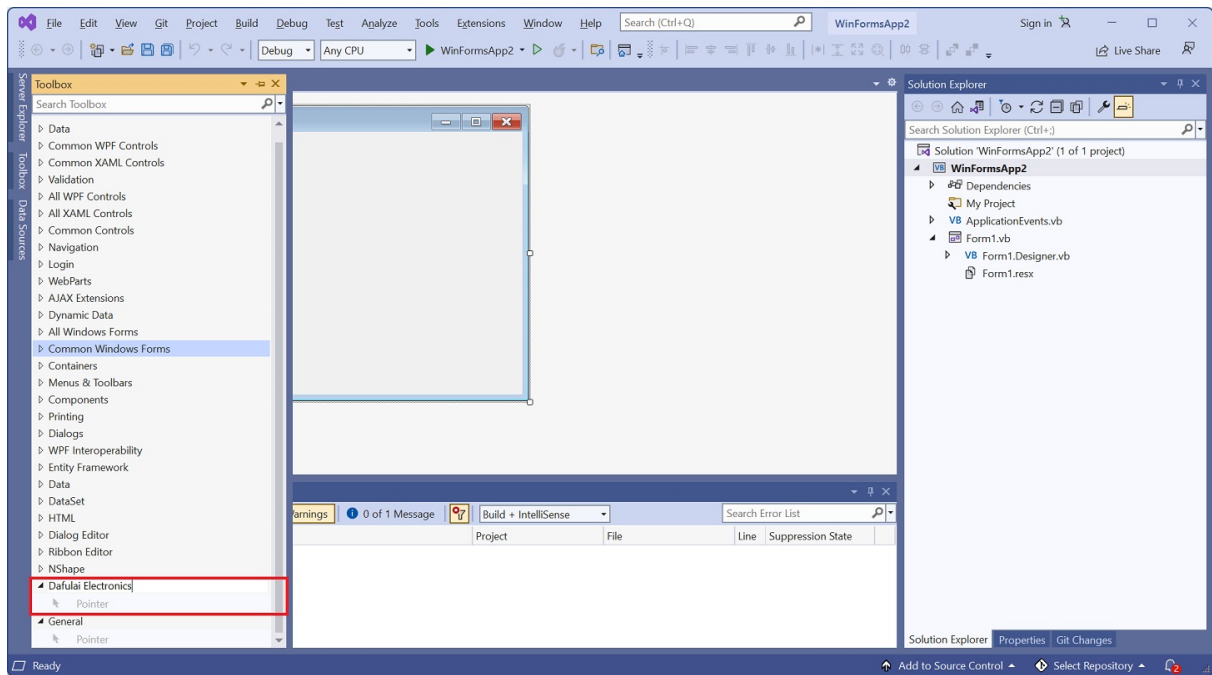
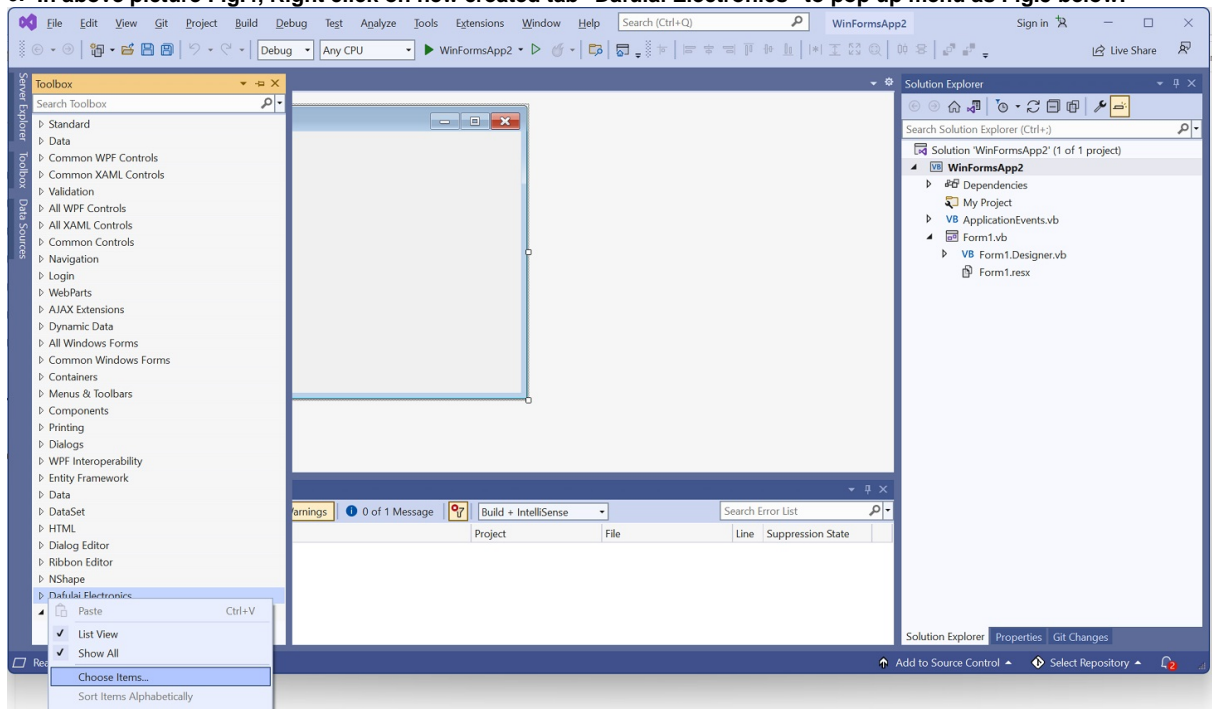
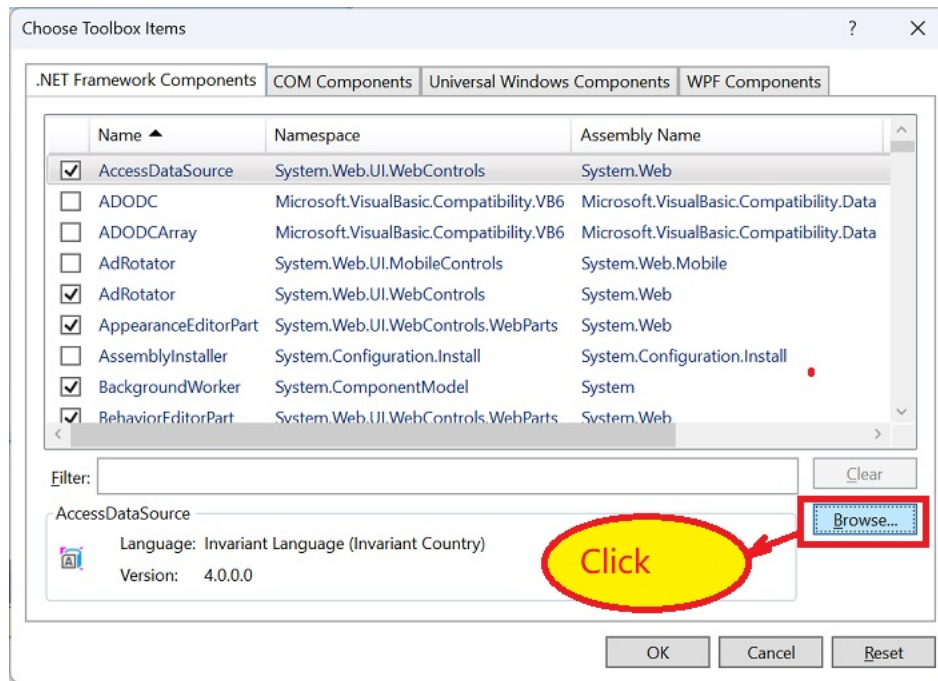

Fig.4 New Tab created
Fig 5 Popup Menu
Fig. 6 Browse
5. Type any name you like, we type "Dafulai Electronics". We just created "Dafulai Electronics" tab as Fig.4 below:
6. In above picture Fig.4, Right click on new created tab "Dafulai Electronics" to pop up menu as Fig.5 below:
7. In Fig.5 popup menu, click "Choose Items...". The following dialog Fig.6 will occur